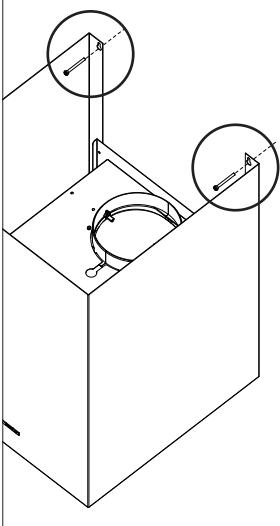

Fig. 6
- Fasten the cooker hood using the security drill hole **B** (Fig.6).